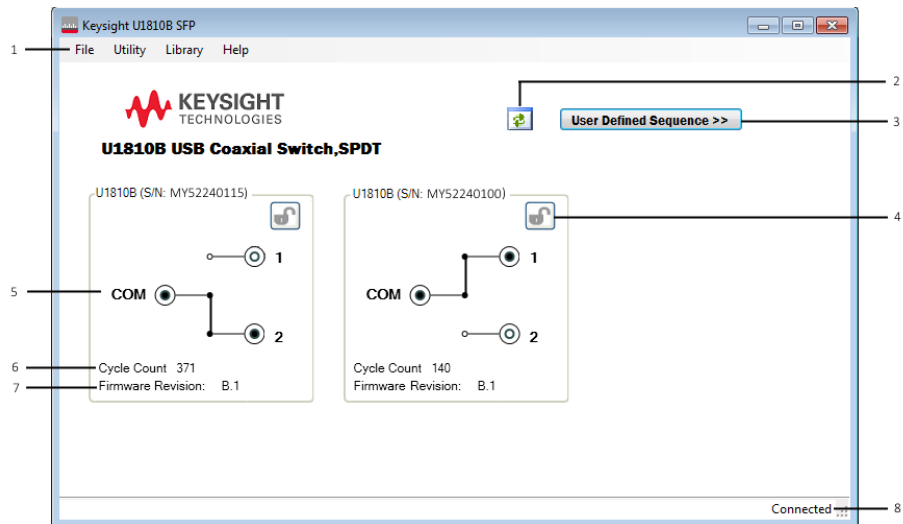

Figure 4-3 U1810B main SFP interface
- 4 The main SFP interface is shown in **Figure 4-3** and described in **Table 4-1**.